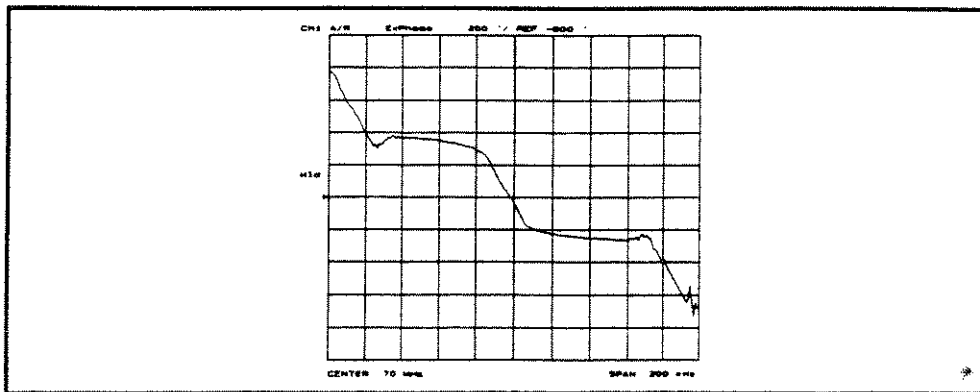

Figure 9-11. Expanded phase Format
**EXPANDED PHASE (EXPP)** displays the phase plot over 360°(Figure 9-11). When this is turned ON, the analyzer avoids the phase plot wrap around every 360°.